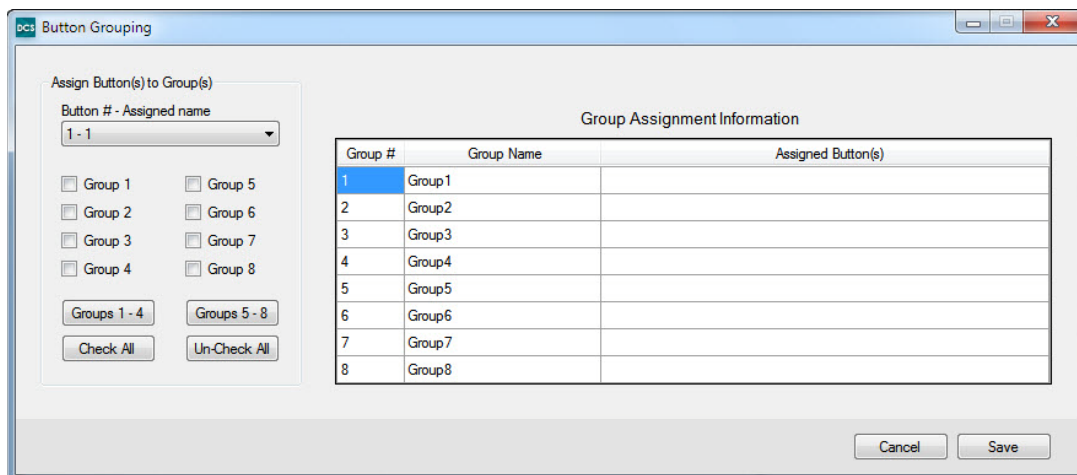

FIG. 48 Button Grouping dialog
3. Click **Assign Button Grouping**. The *Button Grouping* dialog opens (FIG. 48).